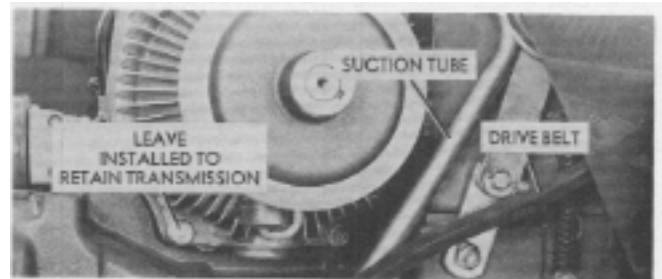

FIG. 32. Transaxle Service, Transmission Installed
- d. Leave transmission bolt indicated in Fig. 32 installed, which will hold transmission in place during transaxle service.